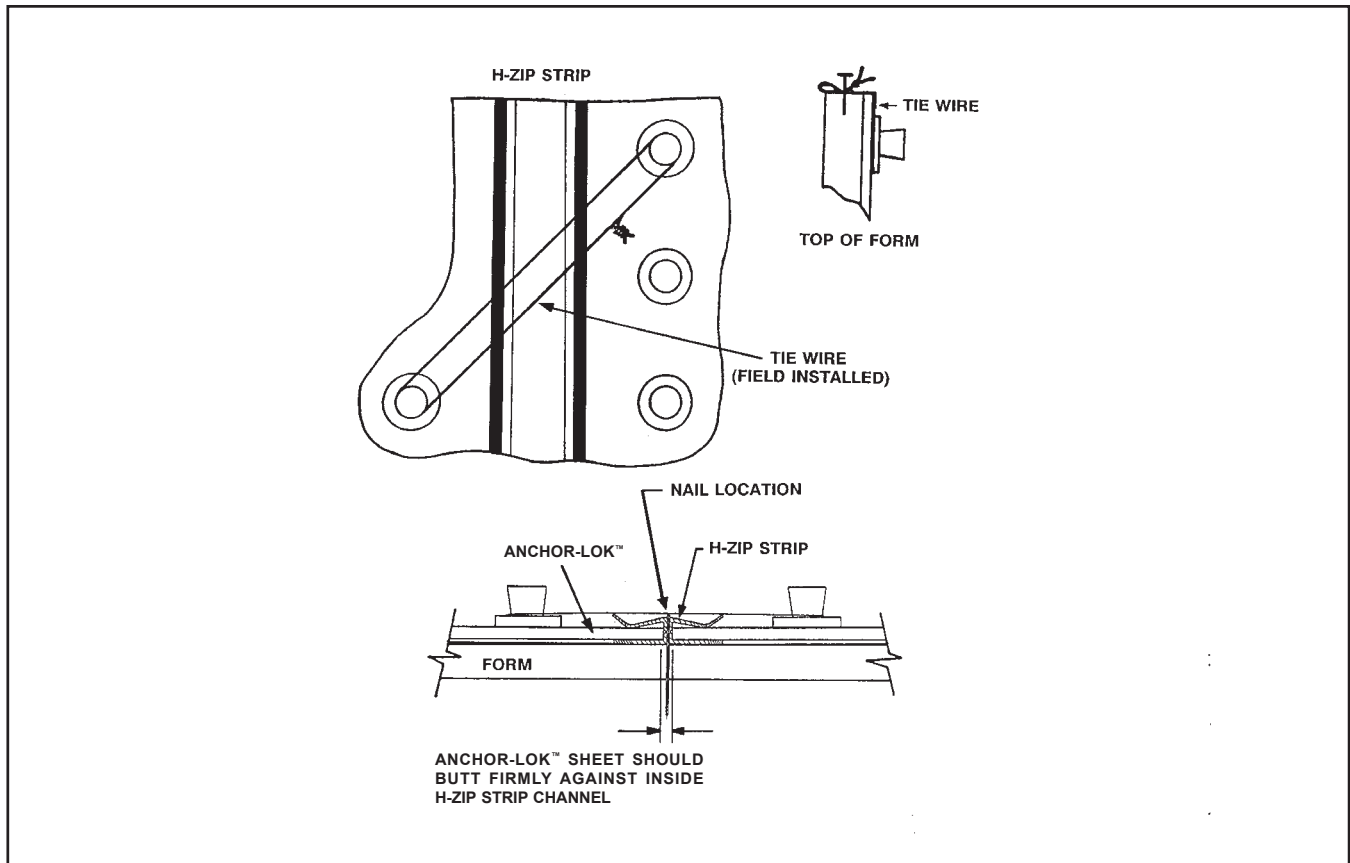

Figure 2
Factory applied lap strips are used for horizontal joints with the H-Zip Strips being used for vertical joints. H-Zip Strips also provide a conductive path to accommodate spark testing of all joints. If lap joints are used, a conductive foil must be applied to the back of the sheet joint to facilitate spark testing. Secure ANCHOR-LOK sheets to the forms using tie wire (Figure 2). At the top edge of each sheet, the wire is securely wrapped and twisted around every fifth to seventh anchor stud and then wrapped around a nail driven into the top of the form. If metal forms are used, holes in the stiffeners may be used to secure the tie wire.
Use tie wire around anchor studs on the vertical edges of adjacent sheets to hold sheets together. Wire is wrapped around an anchor stud at the edge of the sheet, pulled tightly across the jointing strips in an alternating diagonal pattern and wrapped around an anchor stud at the edge of the adjacent sheet. (Figure 2) Repeat procedure at six (6) stud intervals or closer as job conditions dictate. Never wire concrete reinforcing steel to the anchor studs.